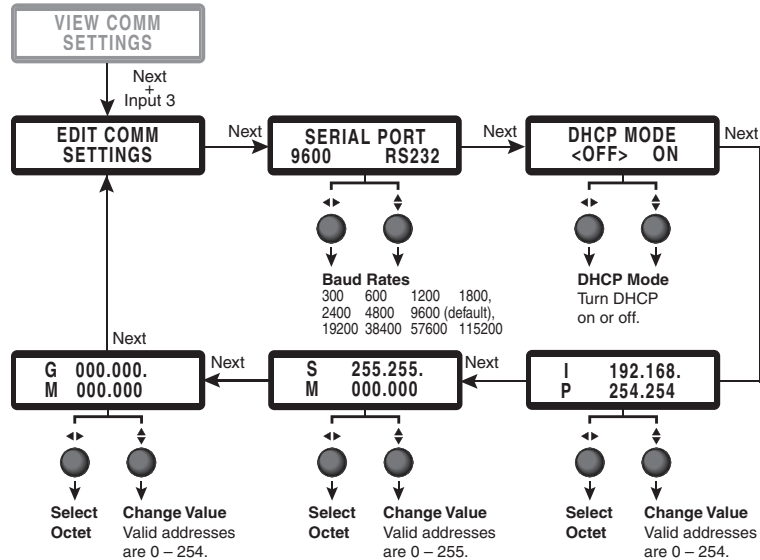

Figure 25. Edit Comm Settings Submenus
4. Press the Next button repeatedly to cycle to the IP address (IP), subnet mask (SM), and default gateway (GM) submenus (see figure 25).